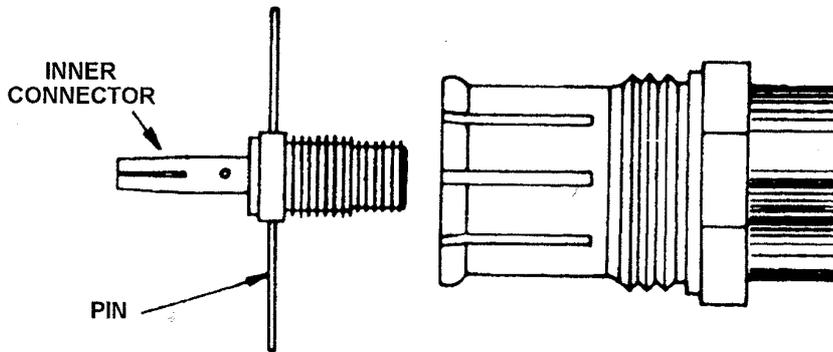

Figure 3.62. Installing the Inner Connector
- h. Place a 'pin' through the hole in the self-tapping inner connector (see Figure 3.62) and use it as a 'tommy bar' to tap the connector into the inner conductor. To aid tapping, use a small amount of solvent as a lubricant. If tapping becomes difficult, 'back off' the inner connector after every few turns. Tap until the inner connector 'bottoms' against the inner conductor and then tighten. Remove the 'pin' from the inner connector.